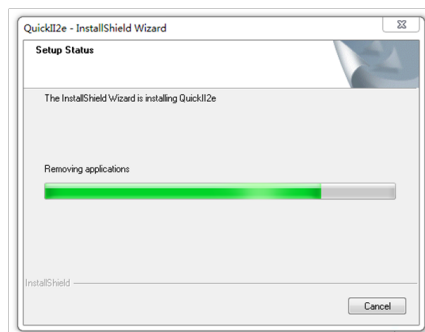

Fig 1.6 Install Shield Wizard complete
- Click the (Install) button with the left mouse button, you will enter the installation interface, as shown in Figure 1.6.
5. The installer begins the automatic installation step, as shown in Figure 1.6. If you want to quit at this time, pls kindly press (Cancel) button.